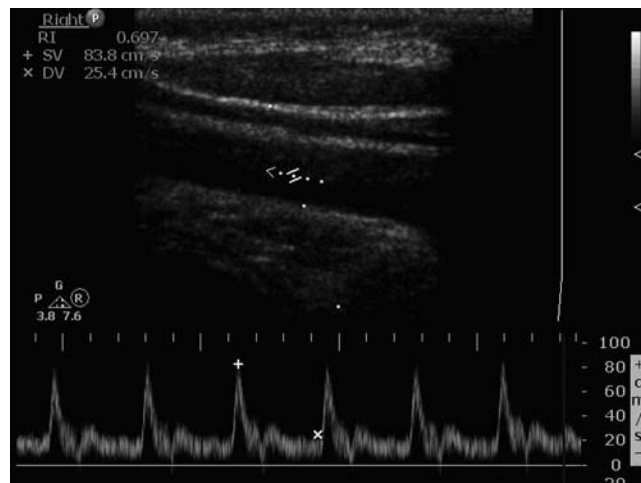

FIGURE 4-26 Resistive index. This image demonstrates the measurement obtained for the resistive index.
Measurement of the flow velocity enables the sonographer to measure peak systolic and end diastolic measurements, which are, in turn, used to quantify the degree of disease within vessels. In addition to the peak systolic and end diastolic velocities, the mean velocity is used for some applications. The mean velocity is derived by tracing the spectral waveform from end diastole of one heartbeat to end diastole of the next heartbeat. Examples of measurements that are obtained on a spectral waveform include the resistive index (RI) and the pulsatility index (PI). The RI is used to quantitate the resistiveness of the distal bed (Table 4-18 and Figure 4-26). An